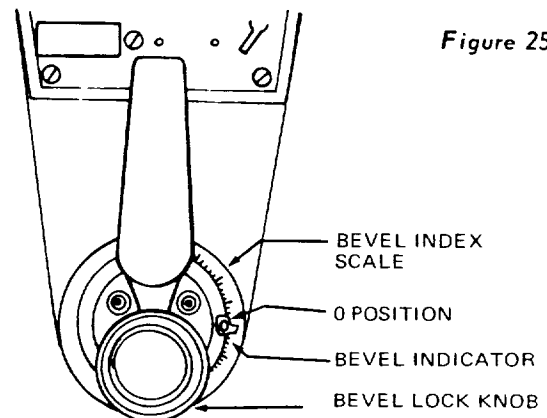

Figure 25
6. Setting the Bevel-Index Indicator (Figure 25)